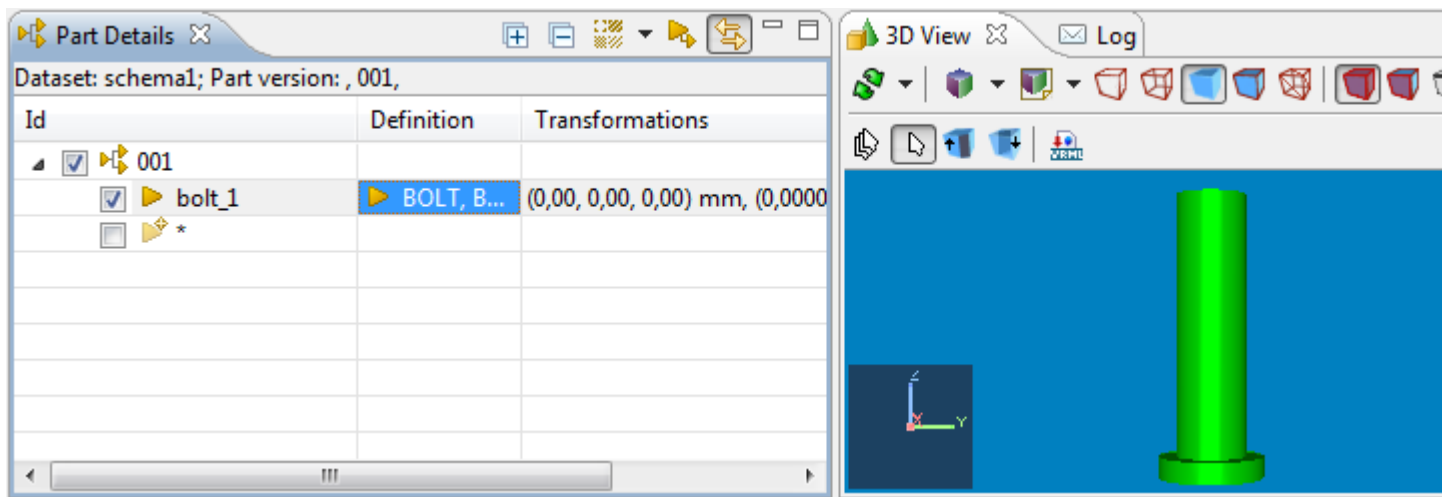

Figure 6. Selected definition in the definition column
- Press **OK** button. The selected entity data appears in the **Definitions** column (see on the left side of Figure 6). The particular 3D object appears in the **3D View** (see on the right side of Figure 6).